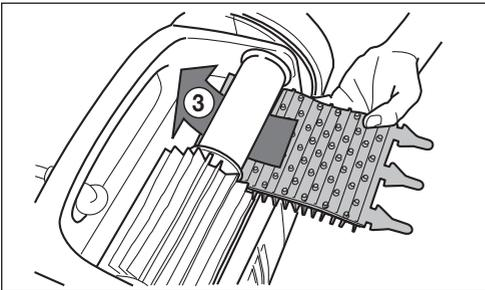

Figure 20. Install the New Brush
3. To install the new brush, position the new brush on the roller with the cleaning blades facing away from the roller. See Figure 20.